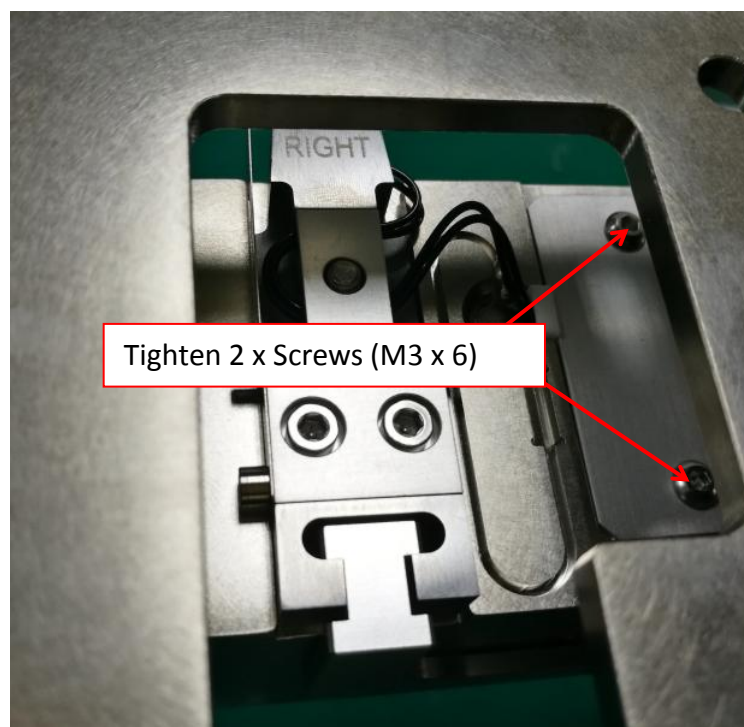

Figure 35 PIP Cover Assembly
6. Tighten 2 x Screws (M3 x 6) as shown in Figure 35